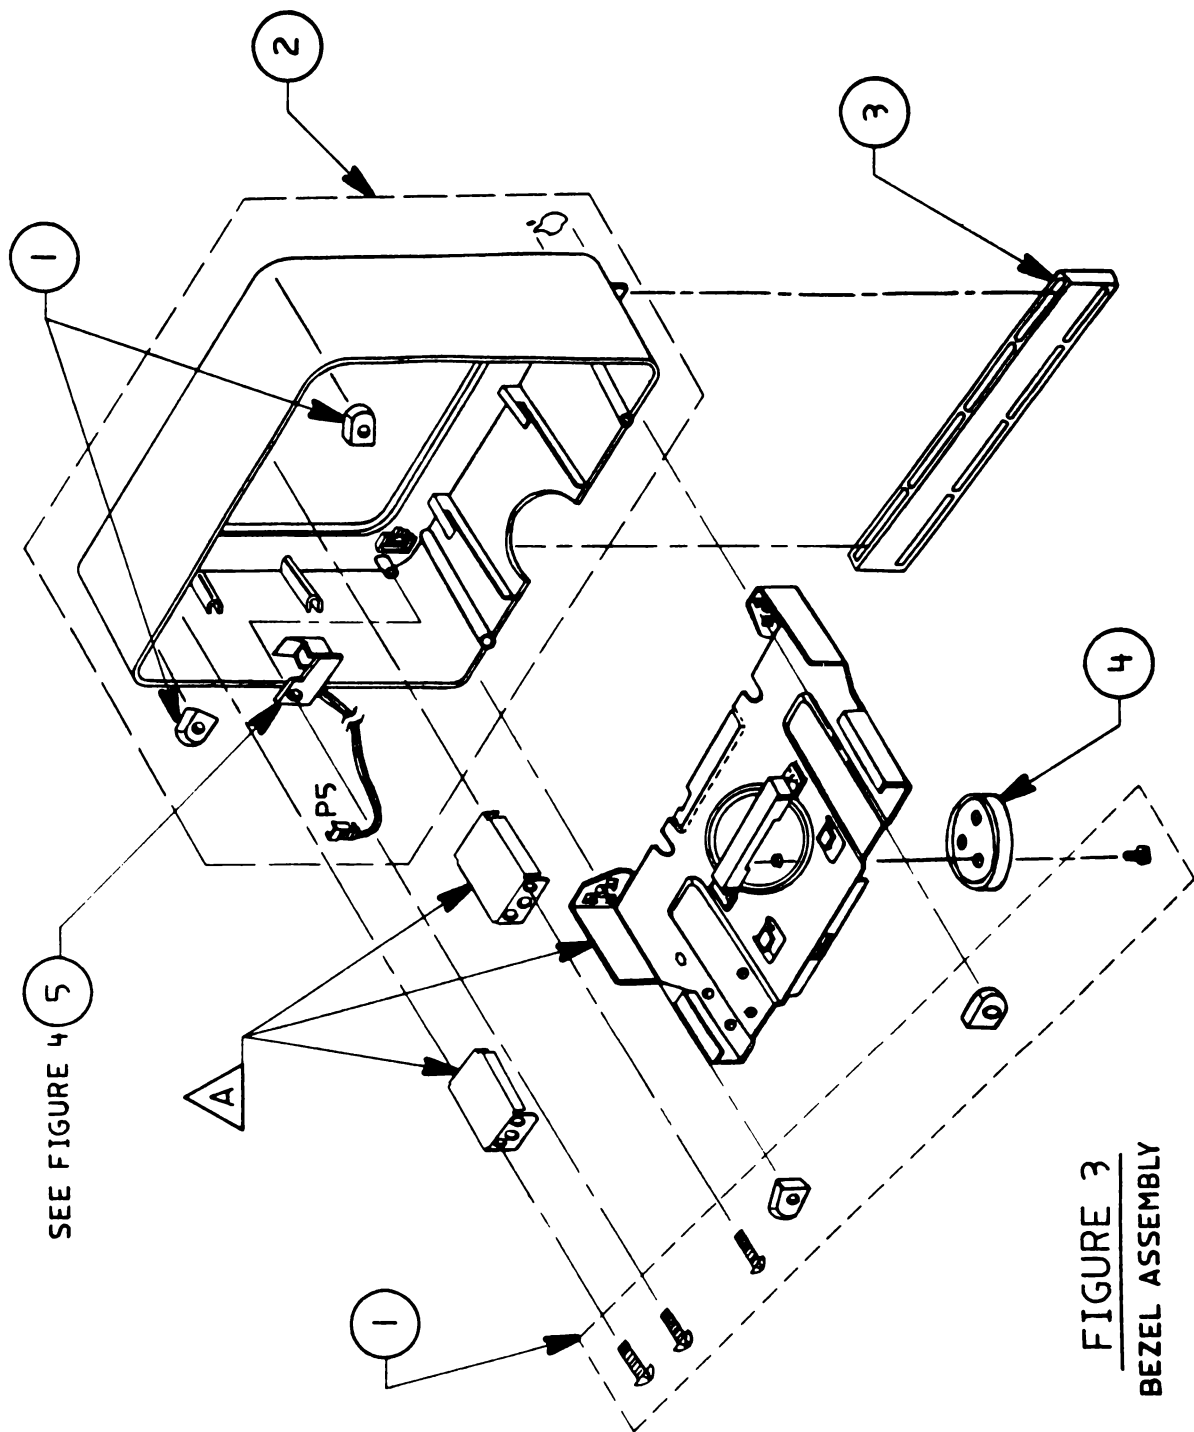

FIGURE 3
□ MONOCHROME MONITOR – BEZEL ASSEMBLY (Figure 3)